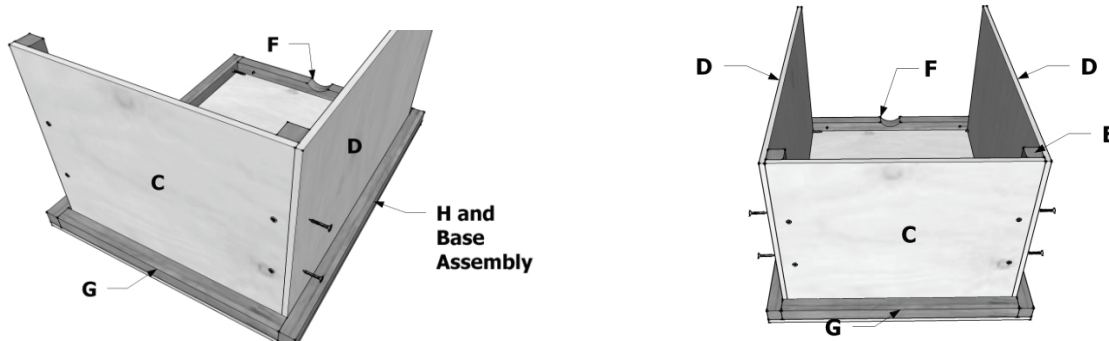

Fig. 4 – Assembly of solid sides of bench, parts C and D. Screws spaced evenly.
- c. **Slide** adjacent side & back panels (parts D and C) onto base as shown. (fig. 4)
- e. **Using 4) 1⁵/₈" screws, fasten** side panels (D) into vertical 2x2s. (fig. 4 again)